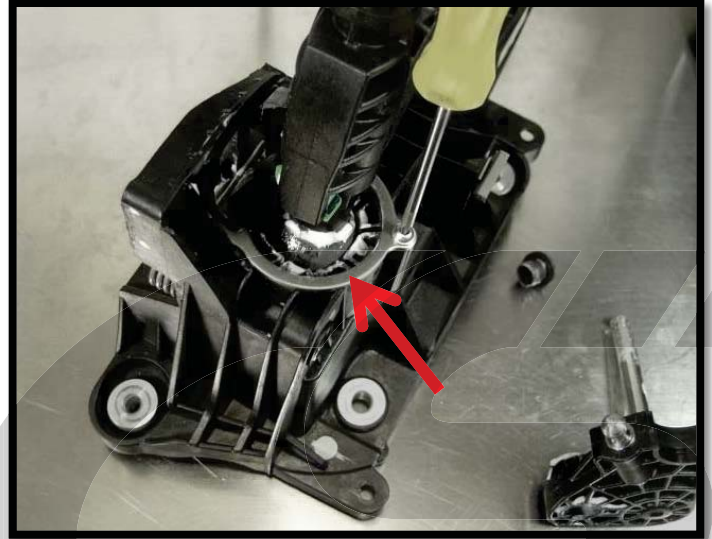

Figure 2d
- e) **Remove the T-20 Torx screw, and pull the metal retaining ring out of the shifter housing** (Figure 2d).
e) Remove the T-20 Torx screw and pull the metal retaining ring out of the shifter housing (red arrow in Figure 2d).